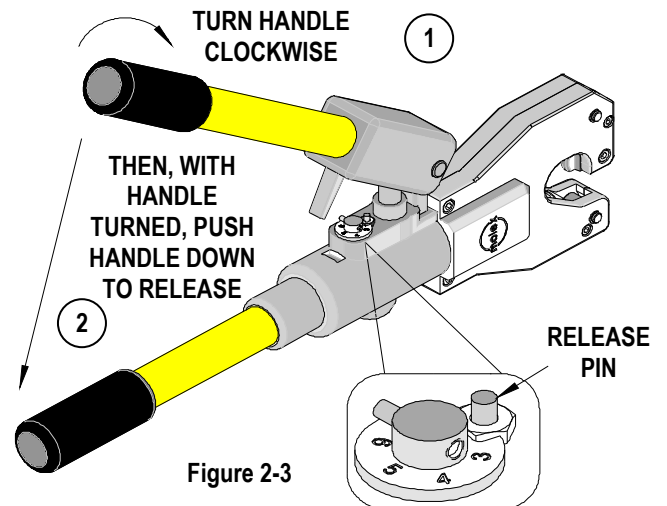

Figure 2-3
4. To release the tool, lift pump handle and rotate clockwise until handle stops. With handle twisted, push down so the pin on the handle contacts the release pin on the tool body. See Figure 2-3. The ram will retract and the tool is ready to begin its next cycle. In the event the tool will not release due to excess flash, hold release pin down with handle and carefully pry tool jaws apart. See Figure 2-3.